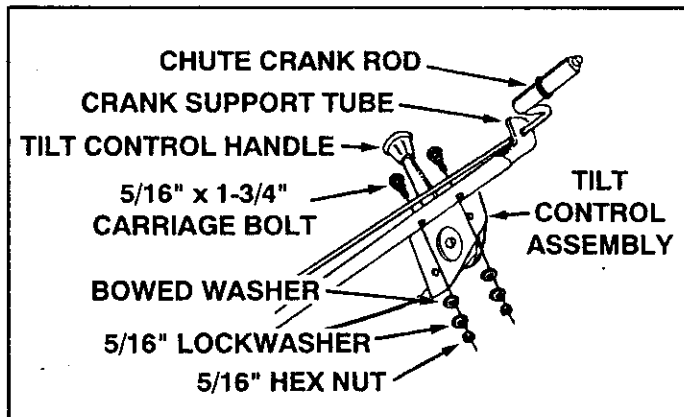

FIGURE 12 LEFT SIDE VIEW
- Attach the chute tilt control assembly to the top side of the crank support tube using two 5/16" x 1-3/4" carriage bolts, bowed washers, 5/16" lock washers and 5/16" hex nuts. See figure 12.